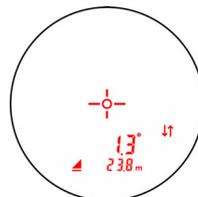

Figure 28
6. Press the  button. The  indicator will appear while the laser is firing. You will hear a high-pitched double beep when you press the  button and then a single beep when the target is acquired. The display screen should look similar to Figure 28.